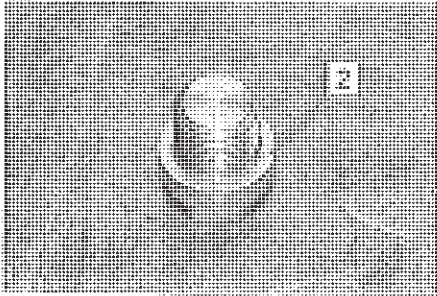

Fig. 80
- Drain oil, remove water from oil and refill or add new oil. Close oil drain opening with new annealed copper seal (Fig. 80/2).